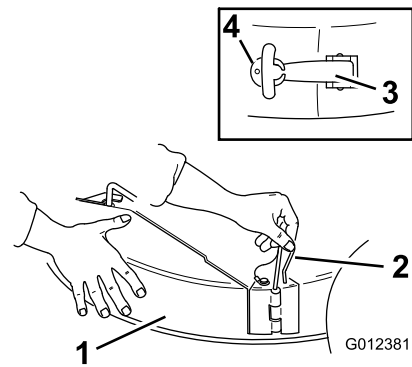

Figure 6
1. Lift the mower deflector and slide the front of the chute into the locking position on the mower and insert the locking pin (Figure 6).
2. Hook the flexible latch on the chute into the notched bracket on the back of the mower (Figure 6).
3. Pull the chute out of the mower (Figure 6).